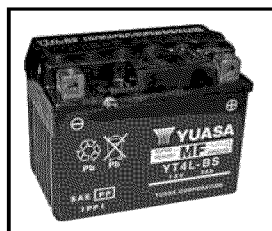

Figure 25
- After charging is complete, press down firmly with both hands to seat the caps. (Do not pound or hammer.) The battery is now sealed. (see figure 25)